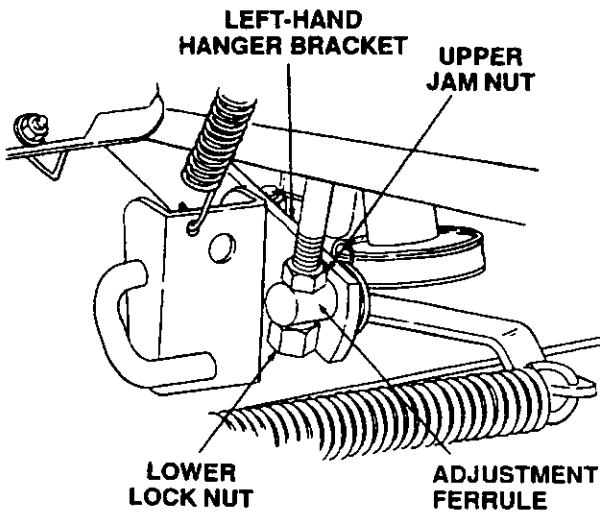

Figure 44
8. Side to side leveling is obtained utilizing the adjustment ferrule and left hand hanger bracket. (Refer to Figure 44.)
9. Loosen upper jam nut on hanger bracket. Turn lower lock nut clockwise to raise left side of mower deck. Turn lock nut counterclockwise to lower left side of mower deck. (Refer to Figure 44.)